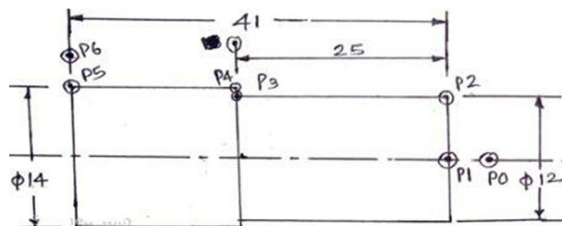

Figure No. 1
c) Calculate the cutting parameters and prepare process sheet for the component shown in Fig. No. 1 with neat diagram. All the dimensions are in mm.
Given: Raw material - Aluminium, Stock Size – Dia.14 X 42 length, Feed (f) = 0.2 mm/rev., Cutting Speed (V) = 90 m/min., Consider work zero (W) as per Fig. No. 1.